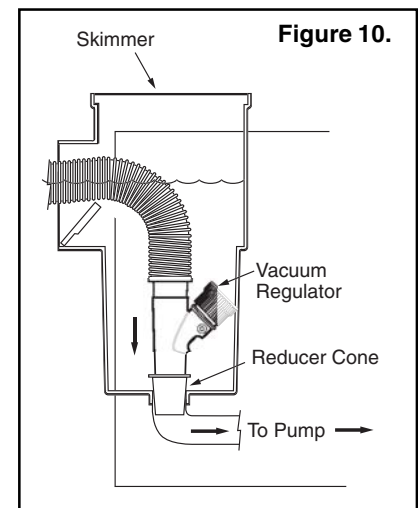

Figure 10.
5. To install the vacuum regulator, insert it and the reducer cone in the skimmer. Attach the end of the hose to the regulator, (see Figure 10). Make sure the vacuum regulator is submerged at all times. If not, the pump will suck air and lose prime. This could damage the pump.